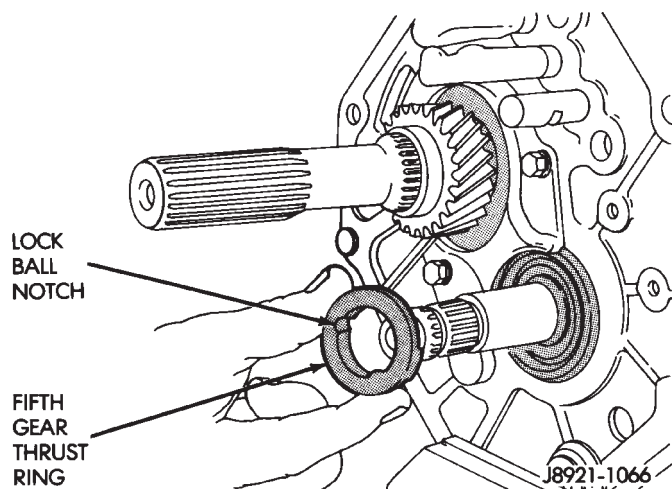

Fig. 36 Removing Fifth Gear Thrust Ring
(17) Remove counter fifth gear thrust ring (Fig. 36).